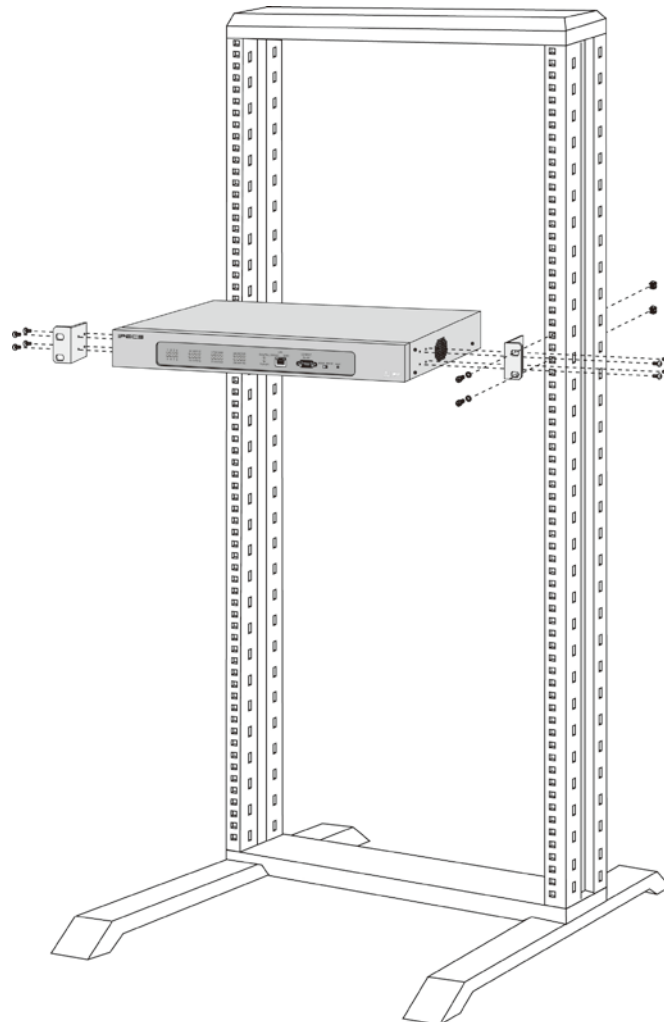

Figure 6.10-1 SLTM32 Rack Mounting Installation
1. Mount the left and right mounting brackets to the SLTM32 module using the eight (8) machine screws provided as shown in Figure 6.10-1.
2. Mount the Module in the 19" rack with the four (4) machine screws, nuts and washers as shown in Figure 6.10-1.